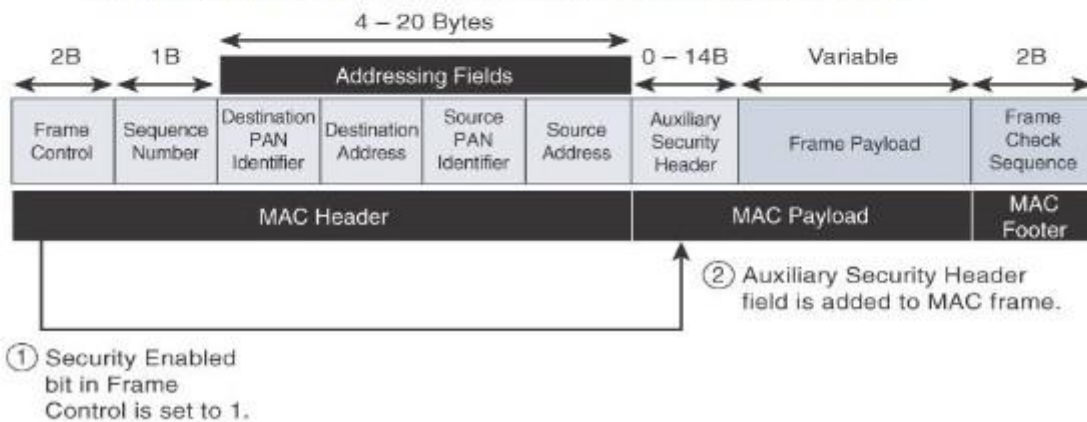

Figure 2.11: Frame Format with the Auxiliary Security Header Field for 802.15.4-2006 and Later Versions
- The figure 2.11 below shows the IEEE 802.15.4 frame format at a high level, with the Security Enabled bit set and the Auxiliary Security Header field present.